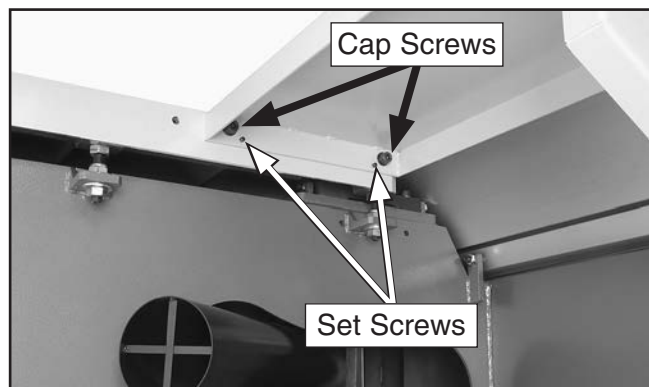

Figure 32. Small extension table attached.
14. Loosely attach the small extension table to the left side of the cast iron table with two M10-1.5 x 20 cap screws, two 10mm lock washers, and two 10mm flat washers as shown in **Figure 32**. **Note:** *The cap screws will be tightened during a later step.*